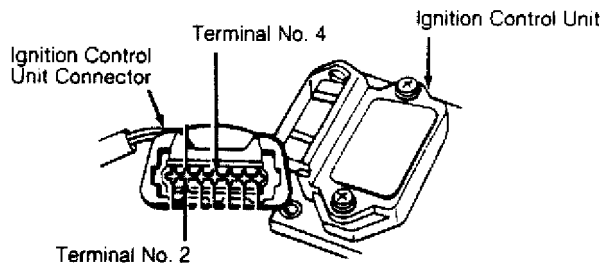

Fig. 5: Checking Hall Control Unit Voltage (Typical)
1) Perform spark test. See SPARK TEST under IGNITION CHECKS. If secondary spark is present, ignition control unit is okay. If secondary spark is not present, turn ignition off. Disconnect ignition control unit wire harness connector. Turn ignition on. Using a voltmeter, measure voltage between terminal No. 2 (-) and terminal No. 4 (+) of connector. See Fig. 5.